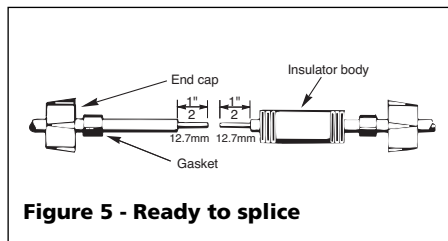

Figure 5 - Ready to splice
4. Unscrew plastic caps from insulators. Place a cap and neoprene gasket sleeve on each wire to be spliced (see Figure 5).
5. Slide insulator body onto one wire end (Figure 5).